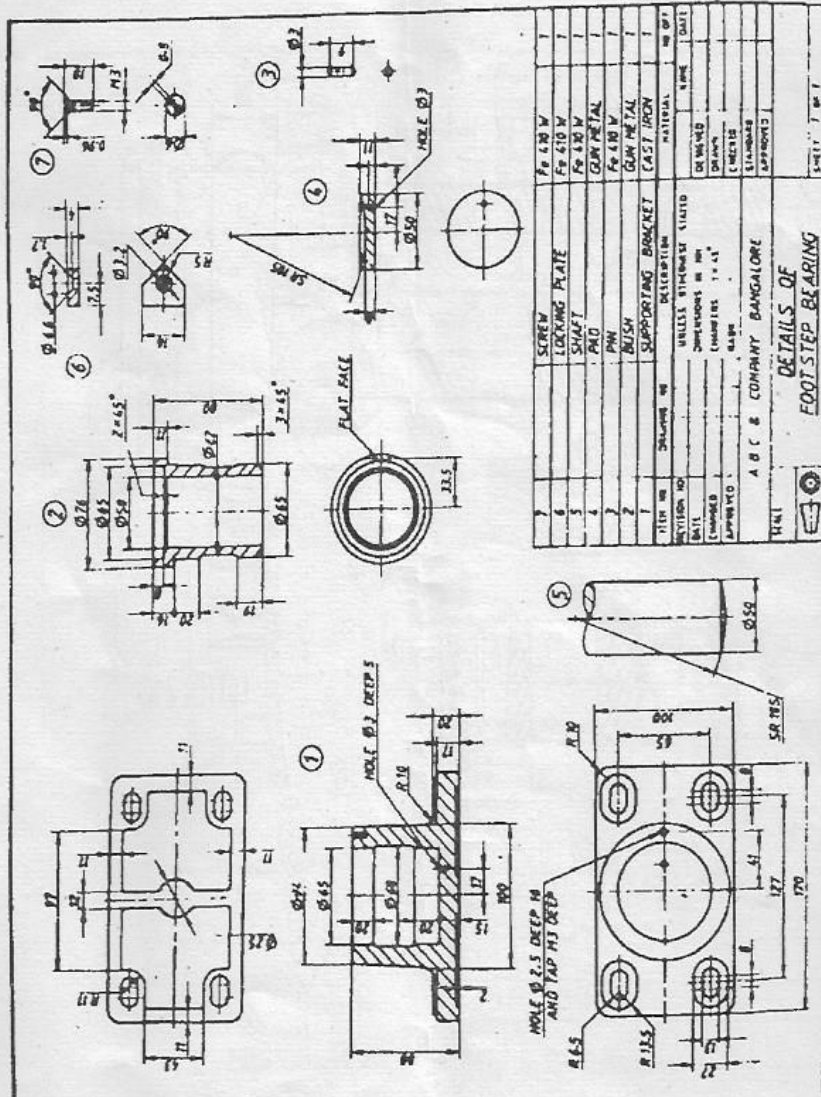

Fig.1
14. (a) Details of a footstep journal bearing is shown in Fig. 1. Draw the front view in half section of the bearing showing all parts assembled. Show only important dimensions on the assembly drawing. Add the item list.